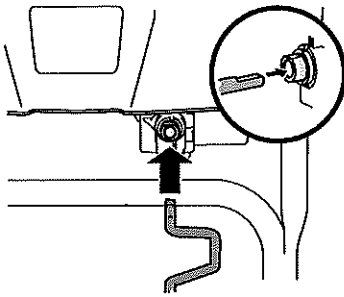

Figure 2-32
5. Insert other end of chute control rod into coupler below handle panel. Make sure to line up flat end of rod and flat end of coupler. You may need to rotate rod around until these two surfaces line up. See Figure 2-32.